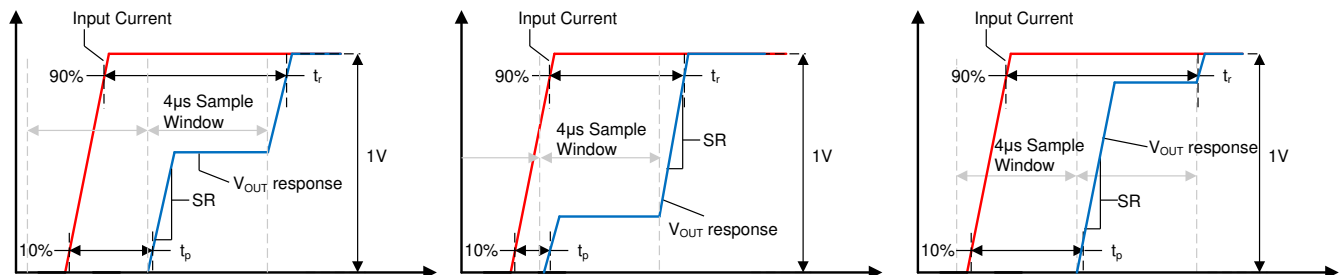

Figure 8-3. Small Current Input Step Transient Response
Slew rate (SR) is defined as the V_{OUT} rate of change for a single integration step's output transition, as shown in Figure 8-3. Because the device often requires two sampling windows to reach a full 90% settling of its final value, this slew rate is not equal to the 10%-90% transition time for the full output swing.
Propagation delay is the time period between the input current waveform reaching 10% of its final value and V_{OUT} reaching 10% of its final value. This propagation delay is heavily dependent upon the alignment of the input current step and the sampling period of the TMCS1107, as shown for several different sampling window cases in Figure 8-3.
Response time is the time period between the input current reaching 90% of its final value and the output reaching 90% of its final value, for an input current step sufficient to cause a 1-V transition on the output. Figure 8-3 shows the response time of the TMCS1107 under three different time cases. Unless a step input occurs directly during the beginning of one sampling window the response time will include two sampling intervals.